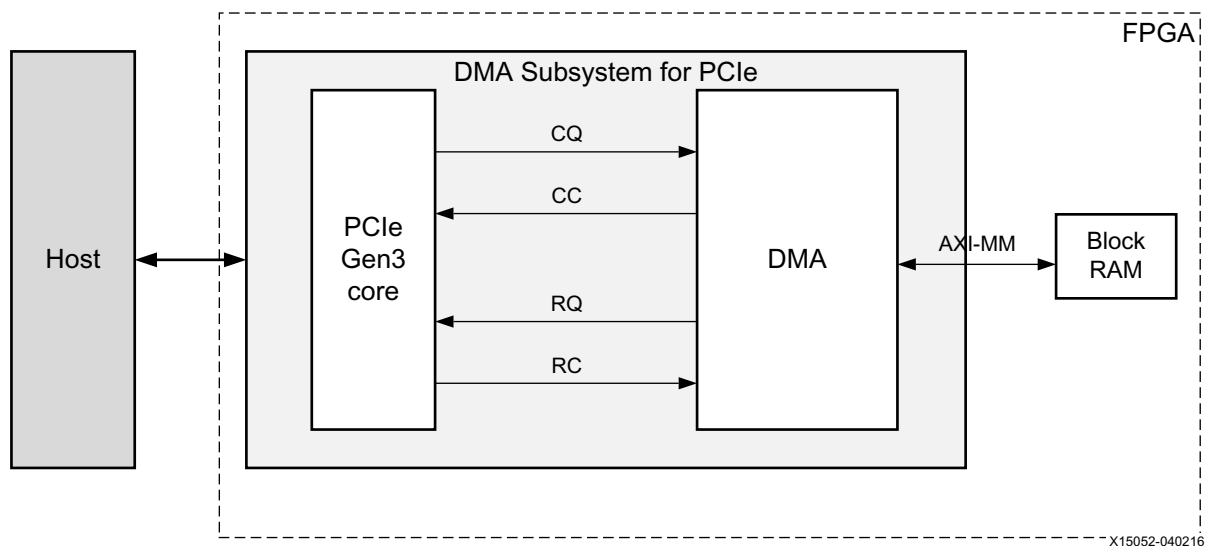

Figure 5-1: AXI-MM Default Example Design
Figure 5-1 shows the AXI4 Memory Mapped (AXI-MM) interface as the default design. The example design gives 4 kilobytes (KB) block RAM on user design with AXI4 MM interface. For H2C transfers, the DMA Subsystem for PCIe reads data from host and writes to block RAM in the user side. For C2H transfers, the DMA Subsystem for PCIe reads data from block RAM and writes to host memory.